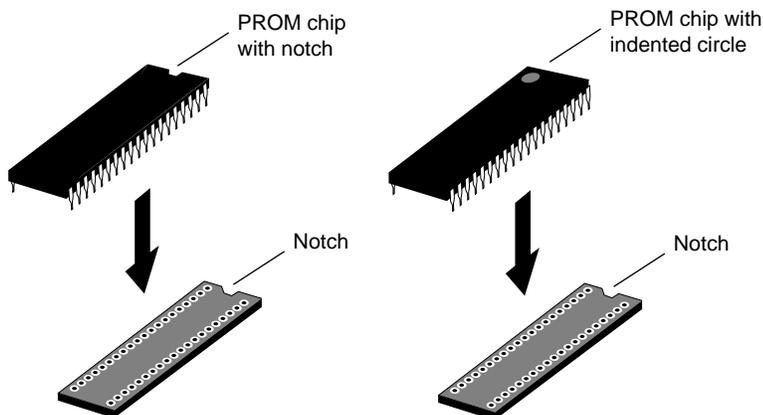

Figure 2-12 Lining Up the PROM Chip
- Orient the PROM chip above the socket on the system board so the end with the semicircular notch or small, indented circle lines up with the notch in the socket. (See Figure 2-12.)